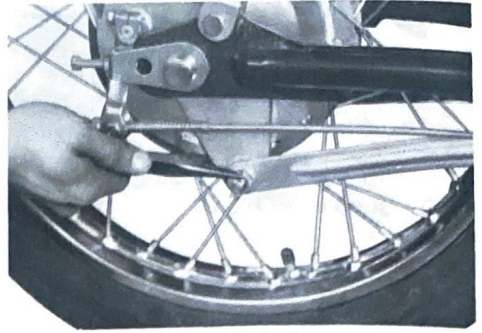

Fig. 5-2-2
- 1) Remove the tension bar (anchor bar) and brake rod from the rear brake shoe plate. (Figs. 5-2-2, 3 and 4)